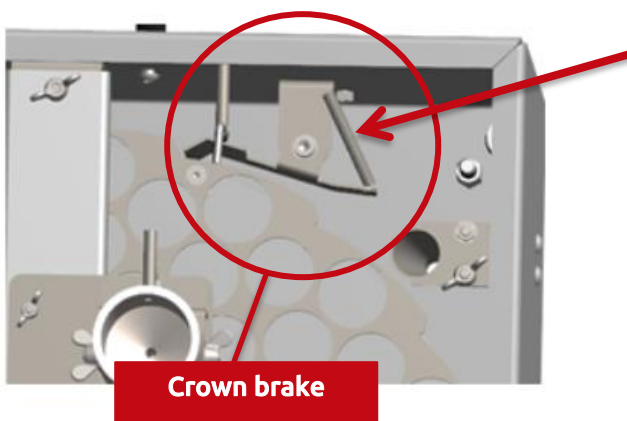

Figure 61. Spring of the crown brake
- Recoil spring of the Anti-reverse system. See figure 61